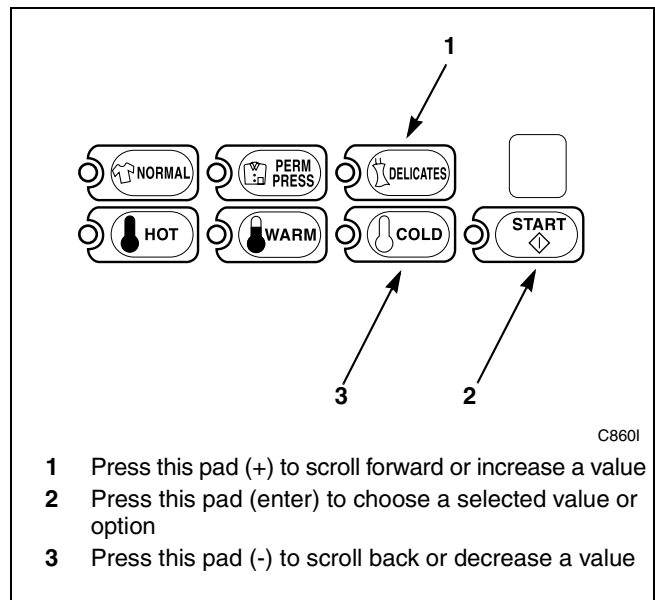

Figure 170
5. Press the DELICATES (+) or the COLD (-) keypad to increase or decrease the current number to the desired number selected from *Table 5*. Refer to *Figure 170*.